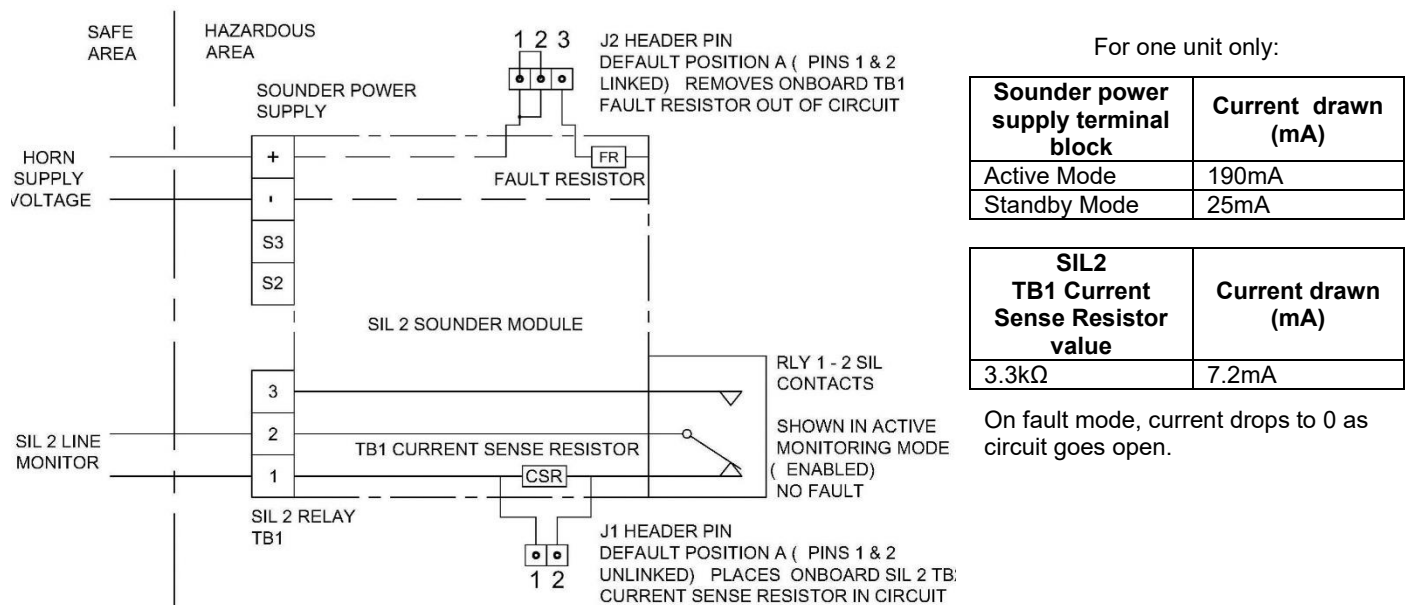

Figure 11 - Schematic of SIL 2 system wiring for fault detection in standby and active mode – 4 wire installation.
**Option:** Should the fault event output of RLY1-2 be required to operate as a switch, header J1 can be set to link pins 1 & 2 (see figure 11) thereby removing the 3.3k Ohm current sense resistor (CSR) from the circuit.